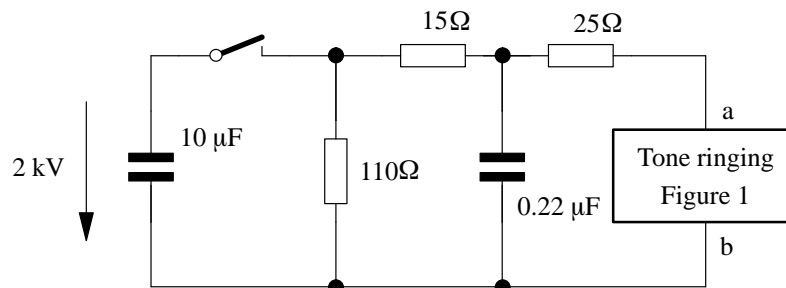

Figure 2
2. The circuit will not be damaged by a surge voltage test with the following conditions (figure 2):